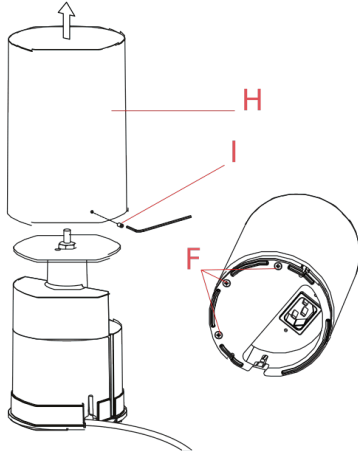

Fig.2
Fasten back the 3 screws (F) (fig.2 page 2)